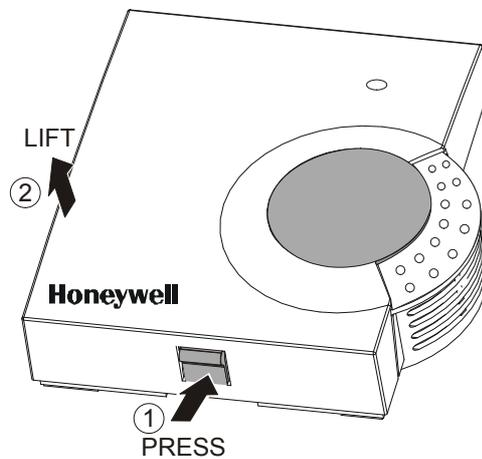
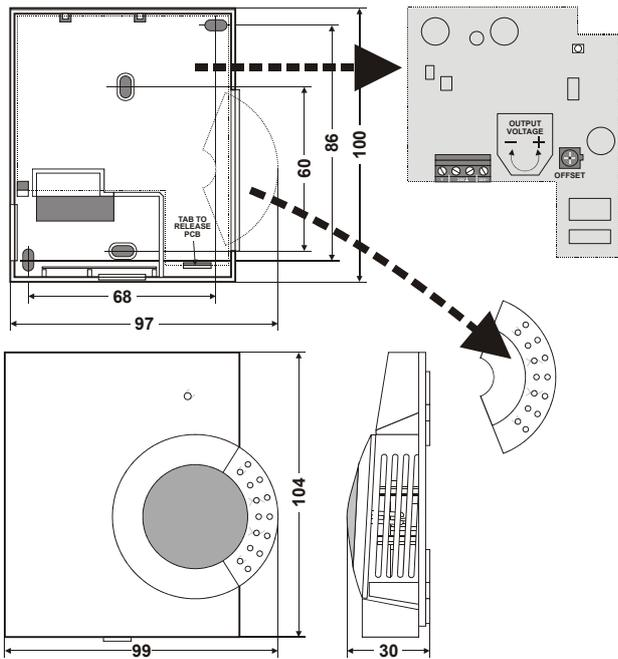

Fig. 2. Cover disassembly
Fig. 3. Dimensions and mounting holes (mm)
1. The cover of the air quality sensor is fixed by a tab on the underside of the unit; to disassemble the cover and the sub-base, see Fig. 2. To access all of the mounting holes, pull off the perforated cover, bend down slightly the tab to release the printed circuit board, and leverage the printed circuit board out (see Fig. 3).
b) bore wall holes as specified in Fig. 3 and mount the wall module with appropriate screws.